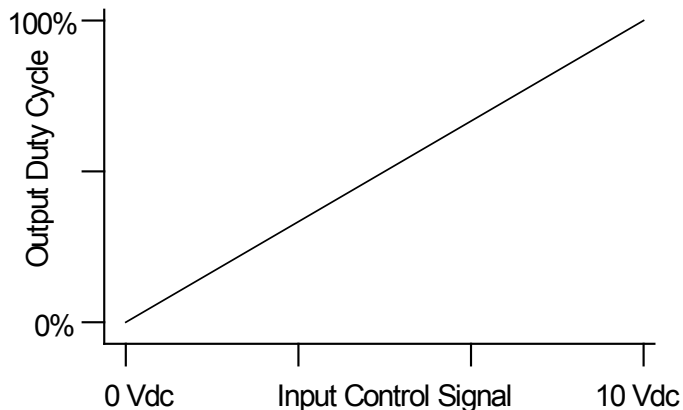

Figure 1: Default Analog 0-10 Vdc Control Curve
- Fan speed is determined by the 0 to 10 Vdc control signal as shown in Figure 1 below